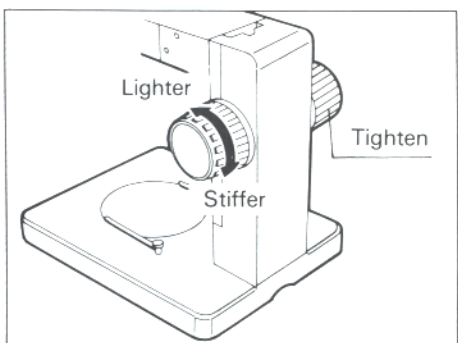

Fig. 2
- (1) Turn one focusing knob with the other focusing knob tightened, by holding both knobs, in order to increase or decrease the rotation tension, depending on the turning direction. (Fig. 2)
- (2) This adjustment is intended to prevent the microscope body from drifting. Set the knob tension at a level slightly stiffer than that to ensure no unintentional movement and facilitate easy operation.